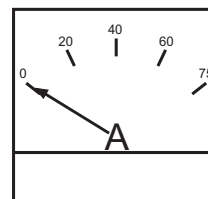

Figure 25. Ammeter (No Load)
- The ammeter (Figure 25) will indicate zero amps with no load applied. When a load is applied, this meter will indicate the amount of current that the load is drawing from the generator.